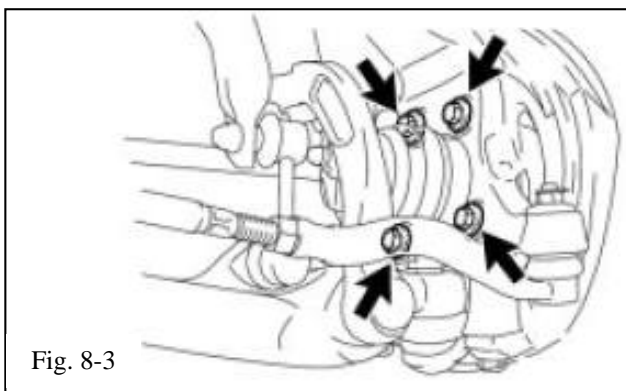

Fig. 8-3
- (e) Remove the 4 bolts, front axle hub sub-assembly (Fig 8-3) and dust shield. Retain the bolts and axle sub-assembly. Discard the dust cover.